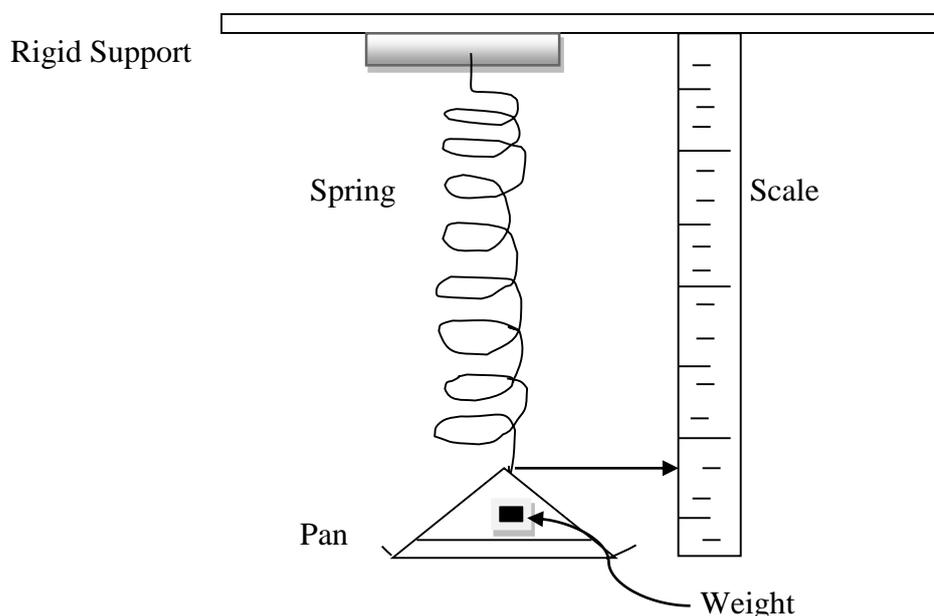

Figure 1
- (i) Let us set up the experimental arrangement as shown in figure 1 in such a way that when a load is subjected to the spring, the pointer moves freely on meter scale. Now remove the load and note down the pointer's reading on meter scale when spring is stationary.